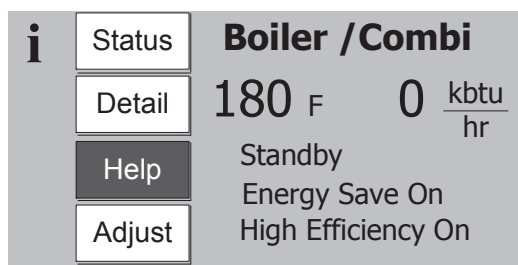

Figure 12.2c: Home Screen with Active Fault
13. If there is a problem that appears before the first try for ignition, or if the boiler fails to light after six tries for ignition, the blinking “HELP” button is highlighted on the Home screen (Figure 12.2c). Touching this “HELP” button will take the user to the Diagnostics menu where the cause of the problem can usually be found by pressing the flashing button on each successive screen.